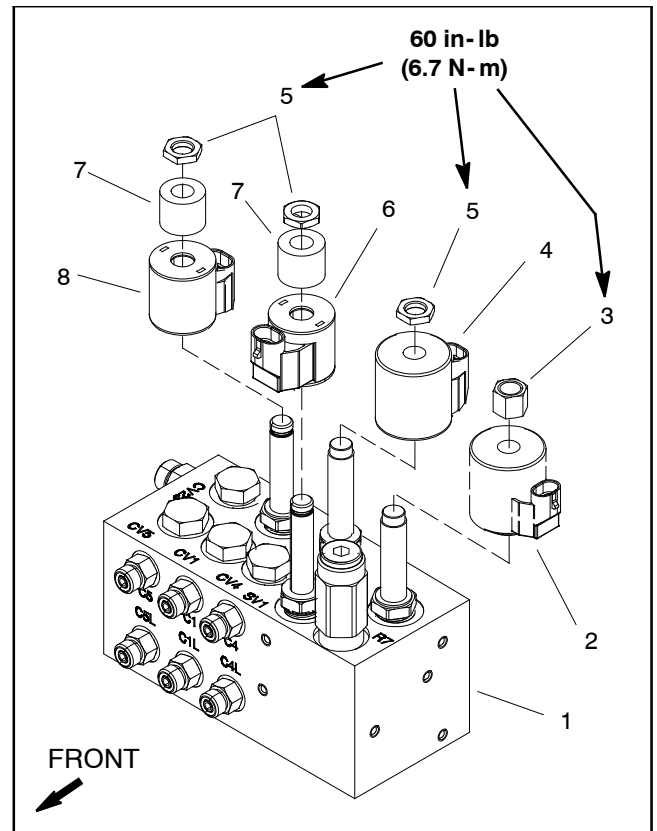

Figure 83
A hydraulic solenoid valve coil on the lift control manifold (Fig. 83) can be replaced without opening the hydraulic system.
2. The lift control manifold is attached to a frame bracket under the operator floor plate. Access to the lift control manifold can be obtained by removing the floor plate. Refer to Figure 83 for solenoid coil locations on the lift control manifold.